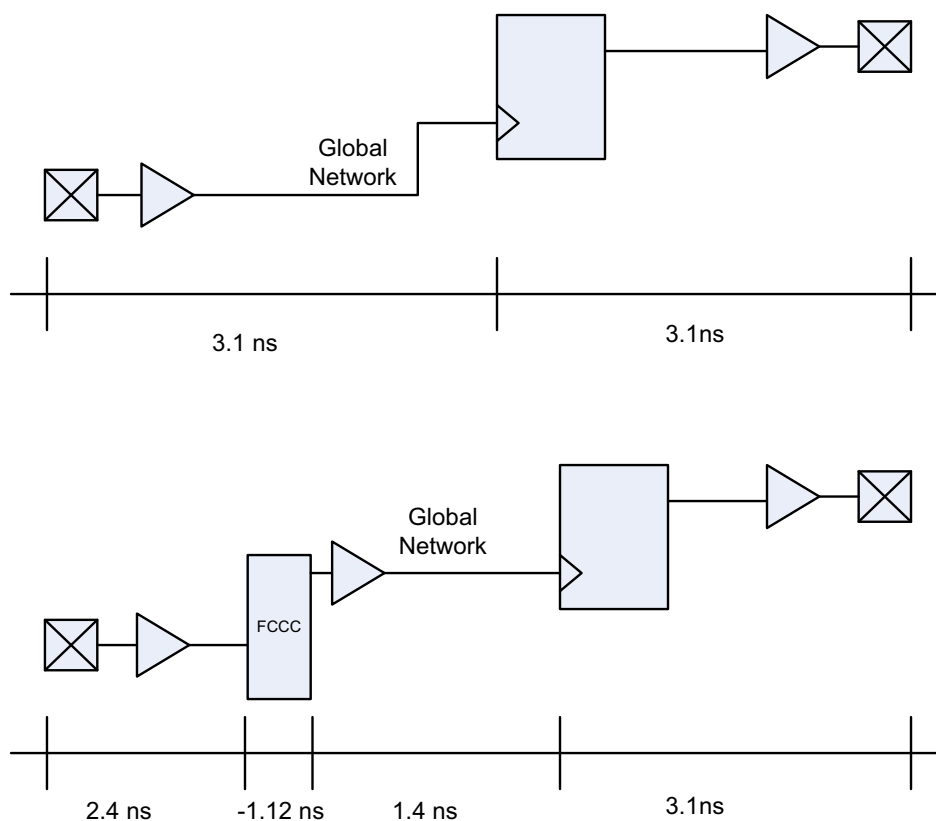

Figure 4 • Clock-to-out Delay in SmartFusion2 With and Without FCCC
Figure 4 shows the approximate worst-case timing delay for clock-to-out path in the SmartFusion2 and IGLOO2 devices with and without the FCCC macro.
- This ensures that PCI I/Os can be assigned to the MSIO bank. Use the MSIO bank as suggested in Figure 3 and Figure 4. Here is an example of PDC command: